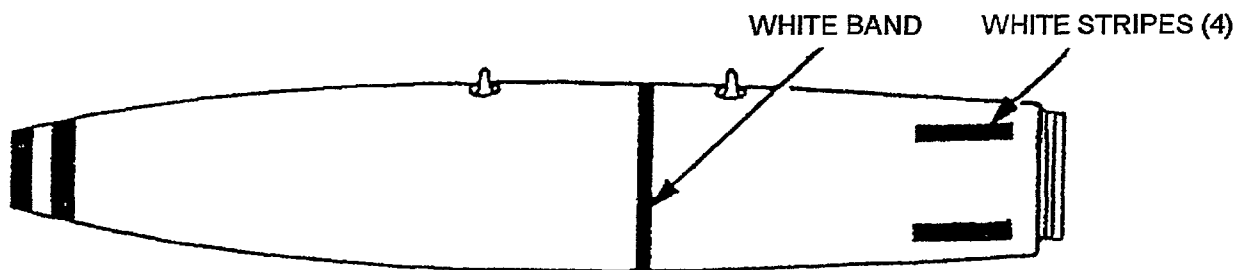

Figure 5-8A. Identification Removal
- Bomb Mk 82:** Using PPE per MSDS, cover the four white stripes and white band located on the bomb (Figure 5-8A) with olive drab paint .
- Bomb BLU-111A/B:** Using PPE per MSDS, cover the four white stripes and white band located on the bomb (Figure 5-8A) with gray paint .